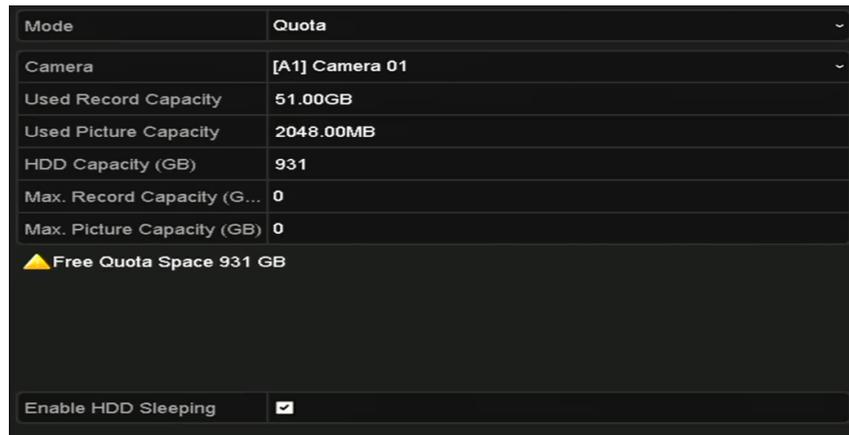

Figure 14-16 Storage Mode Settings Interface
Step 3 Set the **Mode** to Quota, as shown in Figure 14-16.